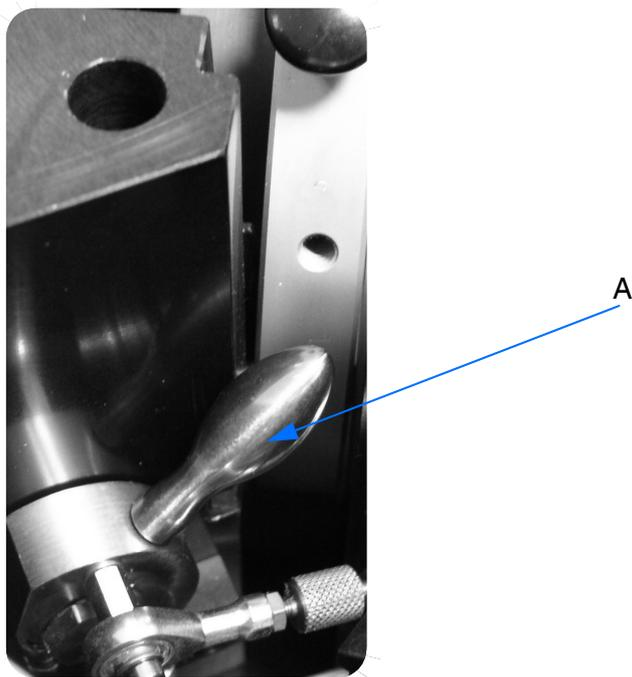

Figure 24: IFS 125HR - Beam splitter release lever
If the measurement requires a different spectral range, you can change the beam splitter. Changing the beam splitter is easy as a locking mechanism automatically fixes the beam splitter at its pre-aligned position, as soon as you move the release lever (A in figure 24) into the locked position (down).
- 3 Move the release lever (figure 24) into the unlocked position (i.e. further up towards your direction).